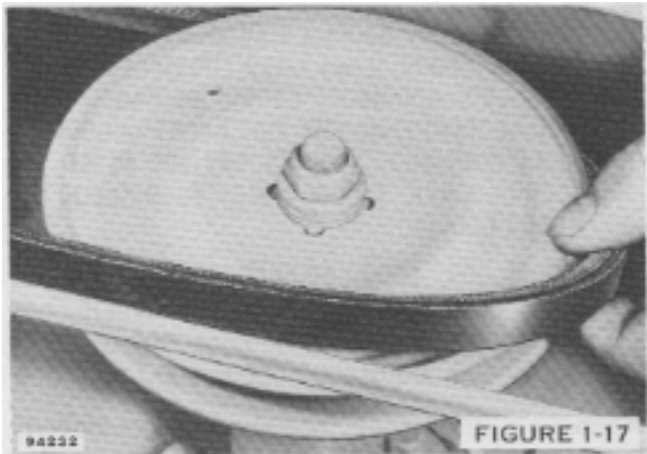

FIGURE 1-17
4. Slip the belt off the front pulley. See Figure 1-17.